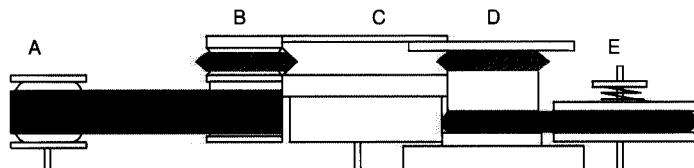
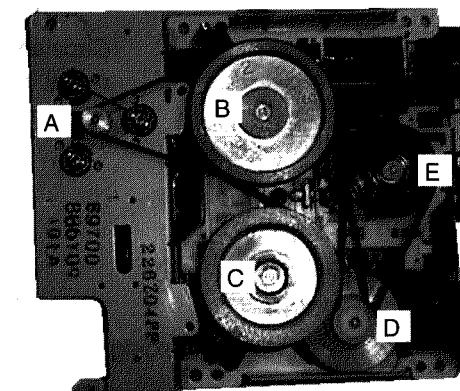

Fig.29
Fig.30
1. Install the flywheels and belts as shown in the figure below.(Fig.29, Fig.30 )